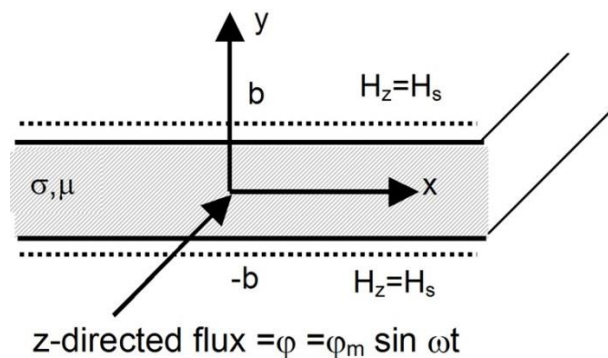

Figure B3.1 Cross-section through an iron lamination of thickness $2b$
- b.** Figure B3.1 shows a simplified cross-section through a single iron lamination which has a thickness $2b$. The lamination is exposed to a sinusoidally time varying magnetic flux which is oriented along the z-axis as shown. The maximum value of the time varying magnetic field strength at each surface is H_s . Starting from the diffusion equation, show that the x component of current density in the lamination is given by: